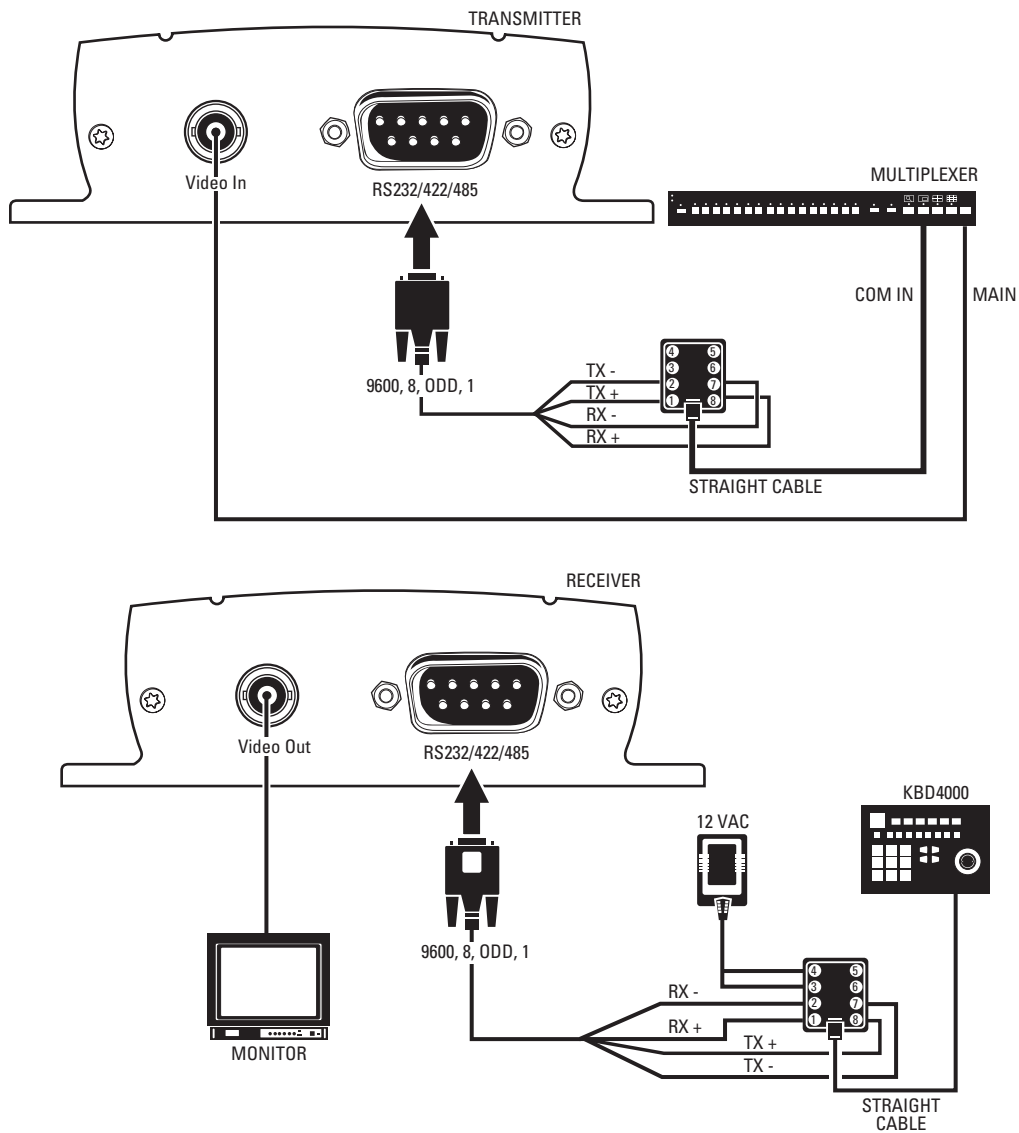

Figure 45. KBD4000 Connected to a Multiplexer
Refer to Figure 45 and the instructions that follow.
6. Refer to Figure 43 and Figure 45. Splice the supplied DB9 cable into the multiplexer wall block. Connect TX– from the NET300 transmitter to terminal 2 on the wall block, TX+ to terminal 1, RX– to terminal 7, and RX+ to terminal 8.